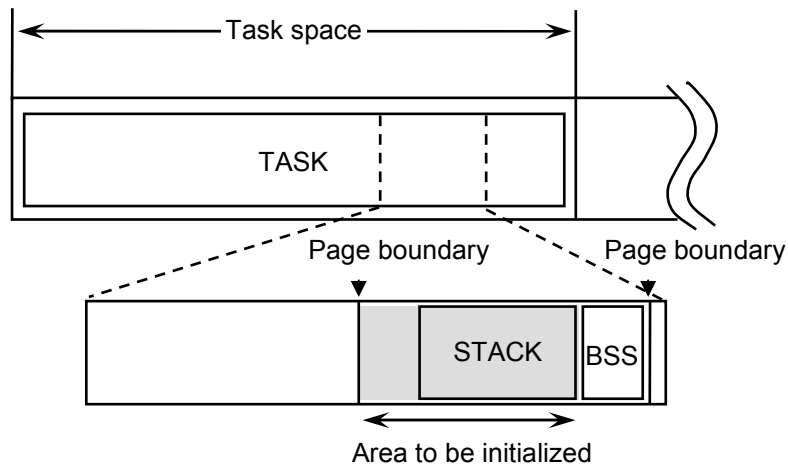

Figure 3-32 Range of Stack Initialization
- Stack initialization is executed in the area from the start address of the page (containing the stack for the specified task) to the last address of the stack. (See Figure 3-32.)